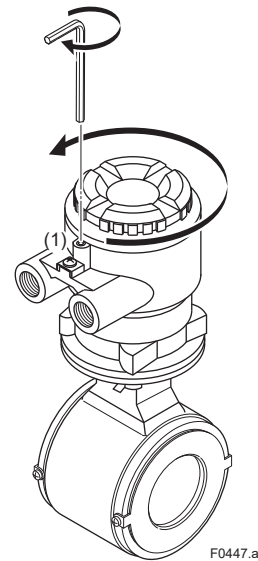

Figure 4.5.1 Removing the Terminal Box Cover (Remote Sensor)
(1) Removing the Cover
Loosen the cover locking screw (1) (See Figure 4.5.1) clockwise using a hexagonal wrench (nominal size 3) to unlock the cover. Upon shipment from the manufacturing plant, the cover is unlocked. Hold the sensor with your hand and remove the cover by turning it in the direction of the arrow as shown below.
(5) Installing the Cover
Install the cover to the terminal box by turning it clockwise. Tighten the cover locking screw (1) (See Figure 4.5.1) counterclockwise using a hexagonal wrench (nominal size 3) to lock the cover.